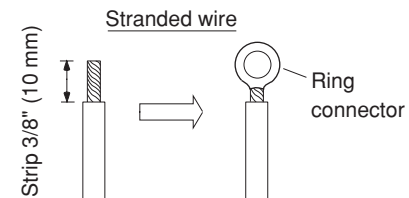

Fig. 28
- (1) Cut the wire end with a cutting pliers, then strip the insulation to expose the stranded wiring about 3/8" (10 mm) and tightly twist the wire ends. (Figs. 28 and 29)
- (2) Using a screwdriver, remove the terminal screw(s) on the terminal plate.
- (3) Using a ring connector fastener or pliers, securely clamp each stripped wire end with a ring connector. (Fig. 28)